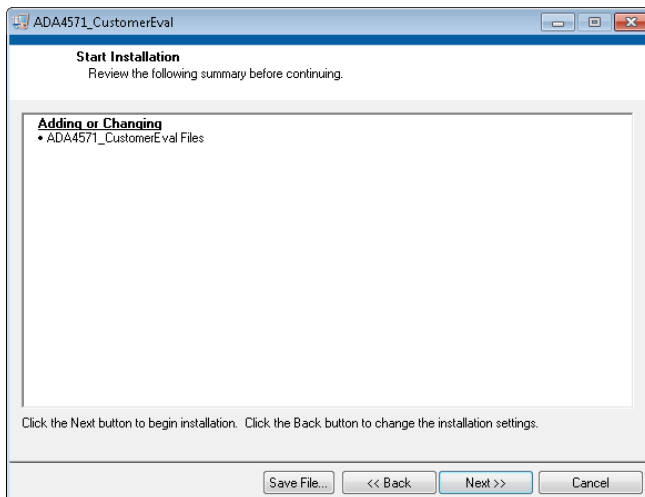

Figure 3. Review Installation
3. When the **Start Installation** window appears click **Next** to continue with the installation (see Figure 3).